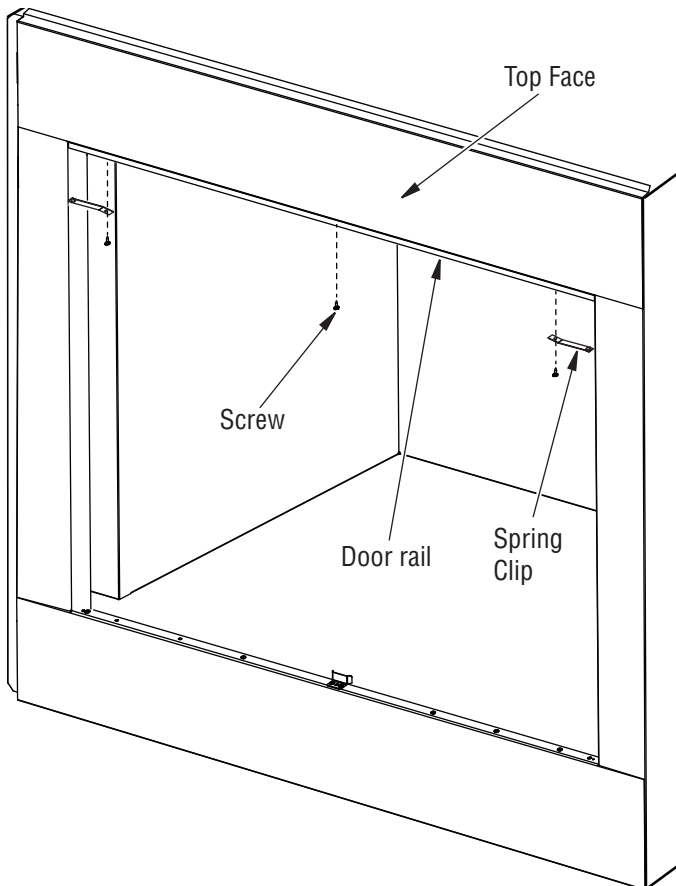

Figure 40 - Installing Door Rail
1. Using a Phillips screwdriver, remove the three (3) factory installed screws underneath top front face.
2. Position the door rail and secure it with one (1) of the screws removed, start from the middle as shown in Figure 40.
3. Using remaining two (2) screws, secure both the spring clips and the rail for the left and right sides as shown in Figure 40.